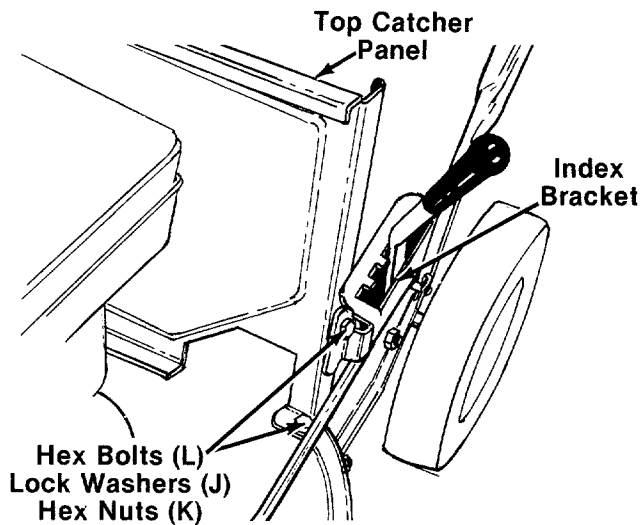

FIGURE 15.
1. Place the top catcher panel in position on the back of the mower as shown in figure 15. The door in the panel should be to the right side of the mower. Secure the bottom of the catcher panel to the mower using two $\frac{1}{2}$ " long hex bolts (L), lock washers (J) and hex nuts (K), finger tight only. See figure 15.
2. On the left side of the mower, secure the side of the catcher panel to the index bracket using $\frac{1}{2}$ " long hex bolt (L), lock washer (J) and hex nut (K), finger tight only. See figure 15.